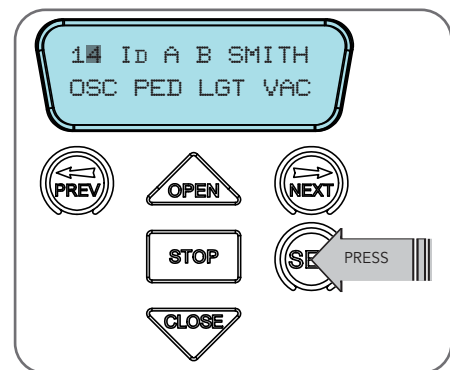

Fig F.3
- The example in (**Fig. F.3**) shows that PED is assigned to the transmitter button two.